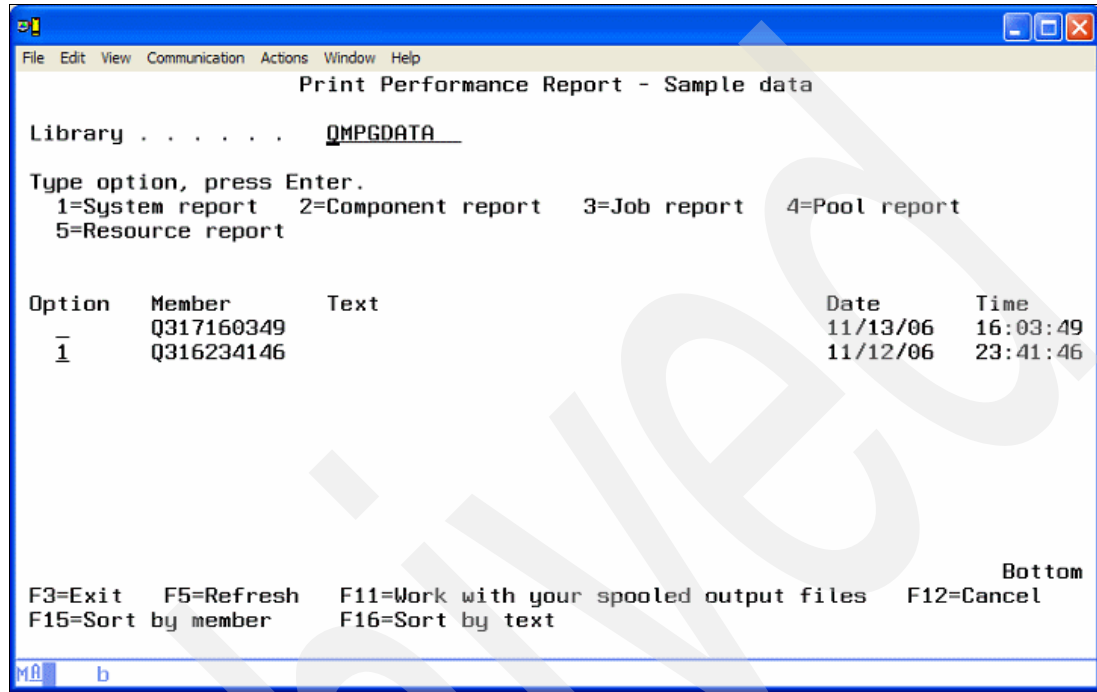

Figure A-22 Choosing to create a system report
1. Choose the type of report to generate and the collection to use. On the Print Performance panel (Figure A-22), choose **1=System report**.
1. Choose the type of report to generate and the collection to use. On the Print Performance Report panel (Figure A-22 on page 466), choose **5=Resource report** to generate a resource report.